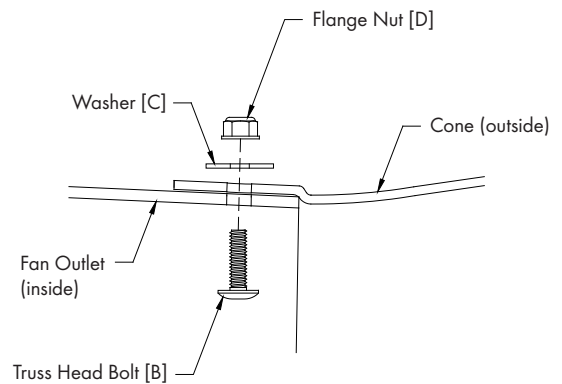
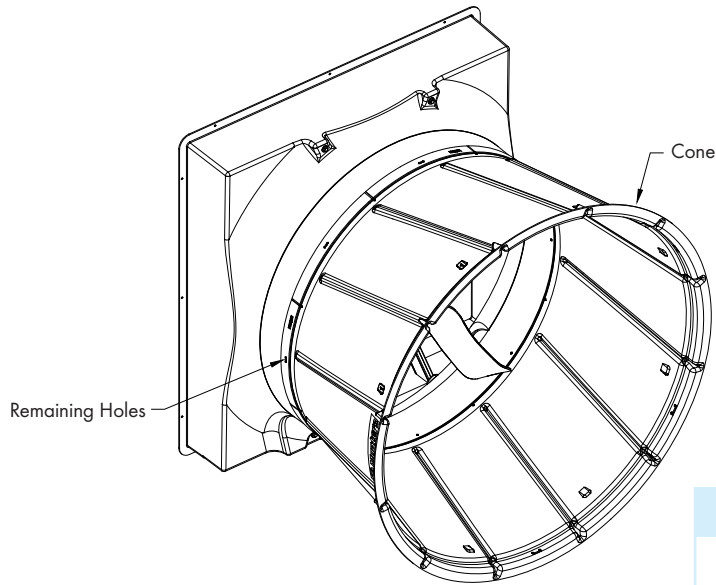

Figure 5B
Figure 6
Work down the sides of the cone, sliding the cone tabs onto the fan until the bottom tab is in place. Keep pressure on the cone to make sure tabs stay on the fan. Install (6) Truss Head Bolts [B], Washers [C] and Flange Nuts [D] in the remaining holes in the fan outlet and slots in the cone to finish securing cone to fan. *See Figure 5B and Figure 6.* Tighten all nuts at this time, making sure not to over tighten.